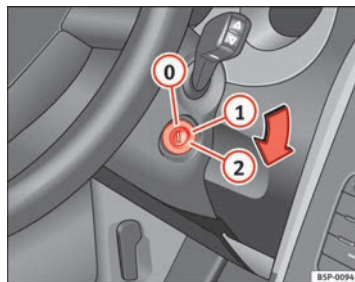

Fig. 137 Ignition key positions
In this position ⇒ fig. 137 the ignition and the engine are OFF and the steering may get locked.
- Turn the ignition key to position ⇒ fig. 137 ①. The indicator lamp  will light for engine pre-heating.
- When the warning lamp turns off, turn the key to position ② to start the engine. Do not press the accelerator.
- Turn the ignition key to position ⇒ fig. 137 .